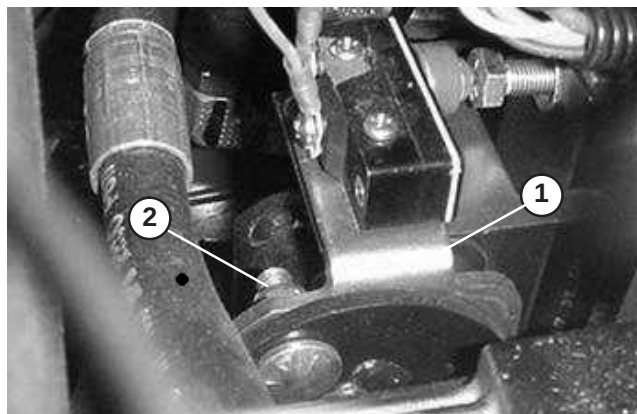

Figure 48
4. Loosen two locknut securing pump plate so plate is free to move (Fig. 48).
5. Start engine and rotate pump plate (Fig. 48) in either direction until wheel ceases rotation.
6. Stop engine and tighten locknuts to secure pump plate (Fig. 48).